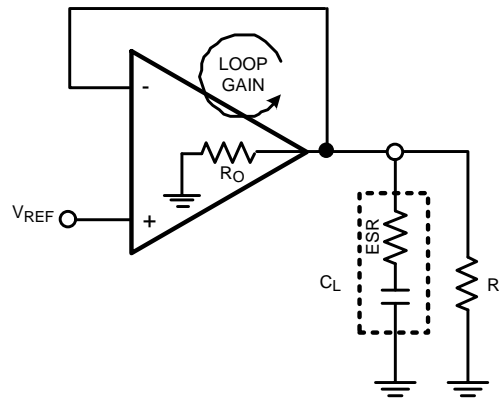

Figure 18. Simplified Model of Regulator Loop Gain Components
Figure 18 shows a basic model for the linear regulator that helps describe what happens to the output signal as it is processed through its feedback loop; that is, describe its loop gain (LG). The LG includes two main transfer functions: the error amplifier and the load. The error amplifier provides voltage gain and a dominant pole, while the load provides a zero and a pole. The LG of the model in Figure 18 is described by the following equation: